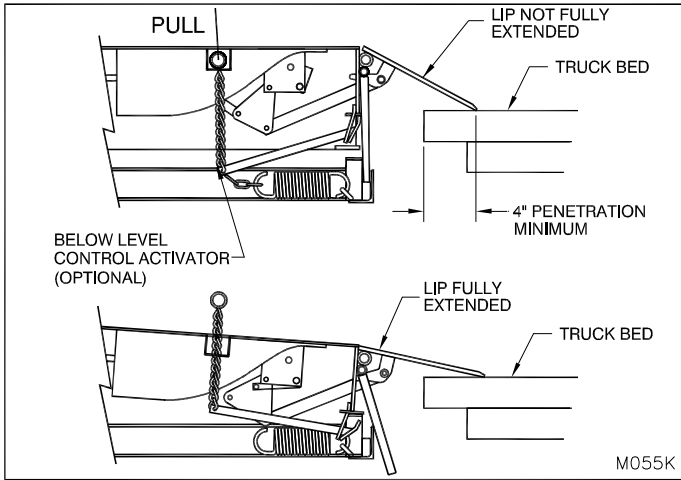

Figure 47: Below Level Control Operation
On dock levelers equipped with mechanical Fallsafe, and if the truck is below dock level, pull and hold the Below Level Control Activator (See “Figure 47: Below Level Control Operation” on page 38) as you move out on the deck lowering it until the lip makes firm contact with the truck bed.
5. **NOTE: On dock levelers equipped with Mechanical Fallsafe, the below dock movement is limited by below level leg supports. As the truck and suspension are compressed during the loading or unloading operation, it may be necessary to readjust the support leg setting so the lip is always fully extended and in firm contact with the truck bed. To lower the deck to the next lower setting, pull and hold the Below Level Control Activator as you move toward the front of the deck. (See "Figure 47: Below Level Control Operation" on page 38) Never attempt to adjust the below level position while a load is on the deck.**